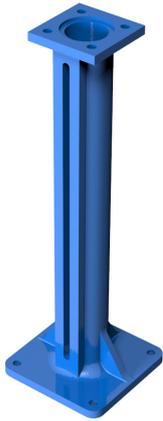

Fig. 7
- Leaning floor stand (fig. 7)
TRIANGULAR (V-NOTCH) AND PENTAGONAL DIAPHRAGM WITH INDICATION RULE (FIG. 7)